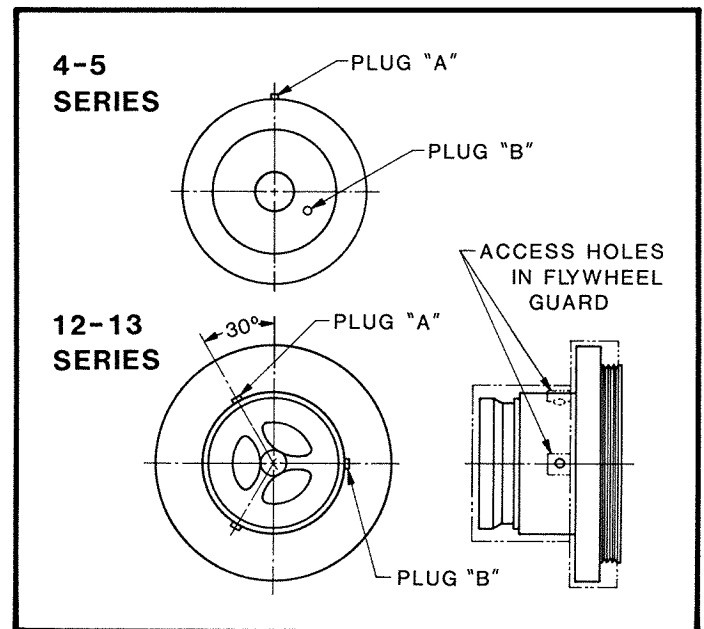

FIGURE 102
21. Rotate flywheel so pipe plugs are in position shown in Figure 102. Remove both plugs and fill with oil until level reaches opening at plug "A". Use extreme pressure gear oil with sulphur phosphorus additive, viscosity 700 to 1000 seconds at 100° F (C.I. oil G-850).